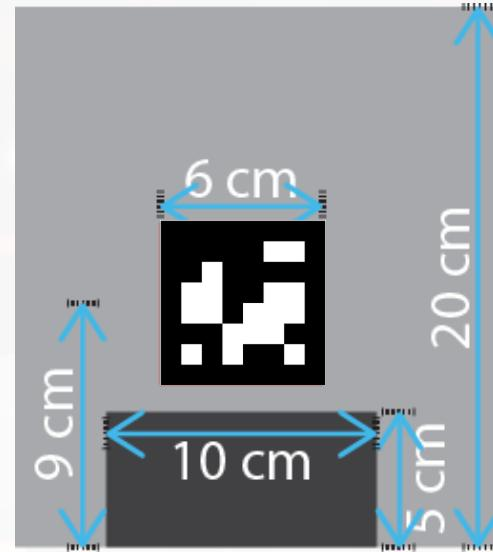

Figure 10 - Task 2 April-Tag placement
- The tag will be positioned **1 cm above the top surface** of the platform and horizontally aligned with the center of the platform. (Figure 10)